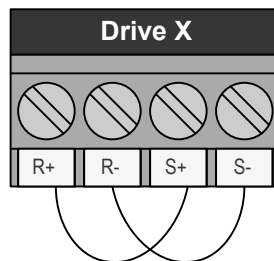

Figure 4.19 Drive Terminal Jumpers
1. Jumper terminals (R+ to S+) and jumper terminals (R- to S-) terminals on each individual drive according to Figure 4.19.